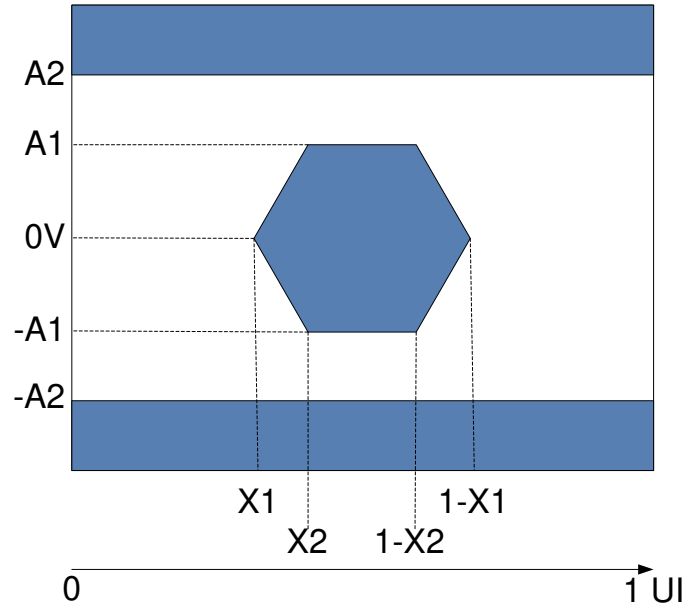

Figure 6-12. HSSI Eye Characteristics
(1) All power supply connections are required to operate the DMD: V_{DD}, V_{D_{DA}}, V_{OFFSET}, V_{BIAS}, and V_{RESET}. All V_{SS} connections are required to operate the DMD.
(2) All voltage values are with respect to the ground pins (V_{SS}).
(3) To prevent excess current, the supply voltage delta | V_{D_{DA}} - V_{DD} | must be less than specified limit.
(4) To prevent excess current, the supply voltage delta | V_{BIAS} - V_{OFFSET} | must be less than specified limit.
(5) Supply power dissipation based on 3 global resets in 200 μs.
(6) LVC MOS input specifications are for pin DMD_DEN_ARSTZ.
(7) LVC MOS output specification is for pins LS_RDATA_A and LS_RDATA_B.
(8) Refer to Figure 6-12 (1e-12 BER).
(9) Defined in Recommended Operation Conditions.